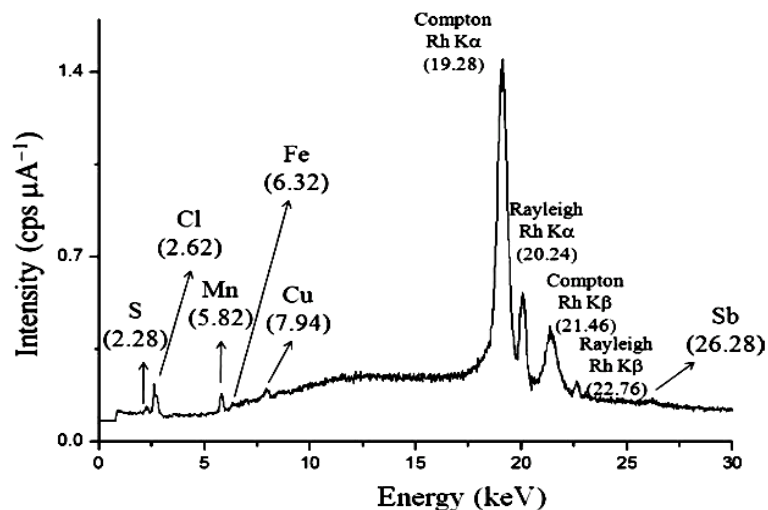

Figure 1: XRF spectrum of bottle-grade PET
- (2). (a). **Figure 1** shows an XRF spectrum of bottle grade poly (ethylene terephthalate) (PET). Analyse the spectrum and elaborate the justifications of the necessity of XRF characterization in plastic industries.